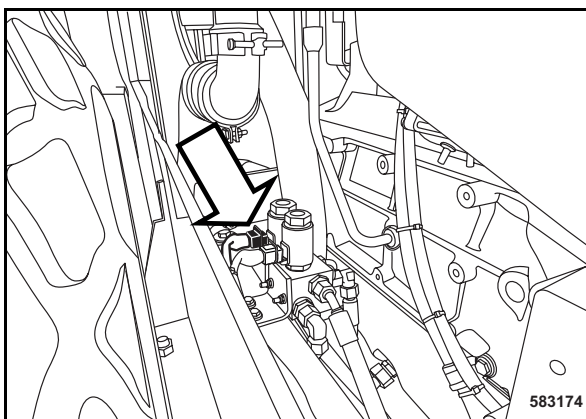

Fig. 132
- Pull the plug off the brake solenoid valve (Fig. 132).
- Reconnect the plug to the parking brake solenoid valve (Fig. 132).